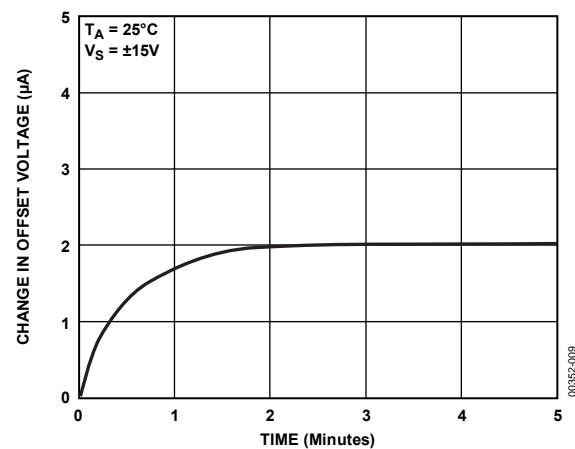

Figure 8. Warm-Up Offset Voltage Drift
- The device has to be warmed up for at least five minutes. As shown in the warm-up drift curve (see Figure 8), the offset voltage typically changes 2  $\mu$ V due to increasing chip temperature after power-up. In the 10 sec measurement interval, these temperature-induced effects can exceed tens of nanovolts.